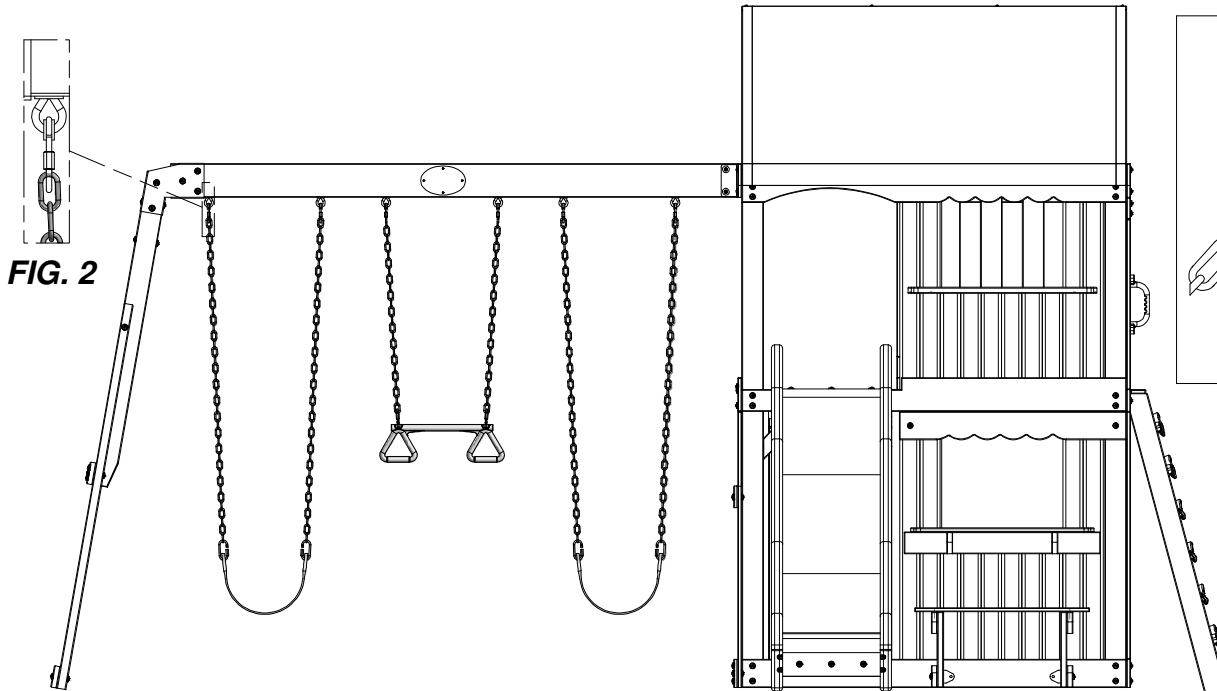
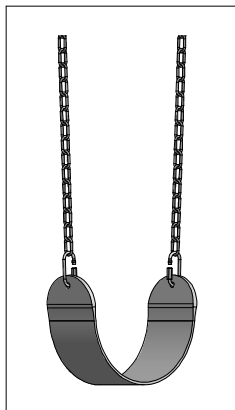

FIG. 2
FIG. 1
(2) KN - CHAIN GREEN 31" - A100177
(6) FA - QUICK LINK - A100069
ATTACH FB SWING SEAT TO (2) EZ CHAINS USING (2) FA QUICK LINKS, AS SHOWN (FIG. 1). REPEAT PROCESS TO ASSEMBLE SECOND SWING ASSEMBLY. NOW, ATTACH EZ CHAINS TO SWING HANGER QUICK LINKS ALREADY ASSEMBLED TO THE SWING BEAM (FIG. 2).